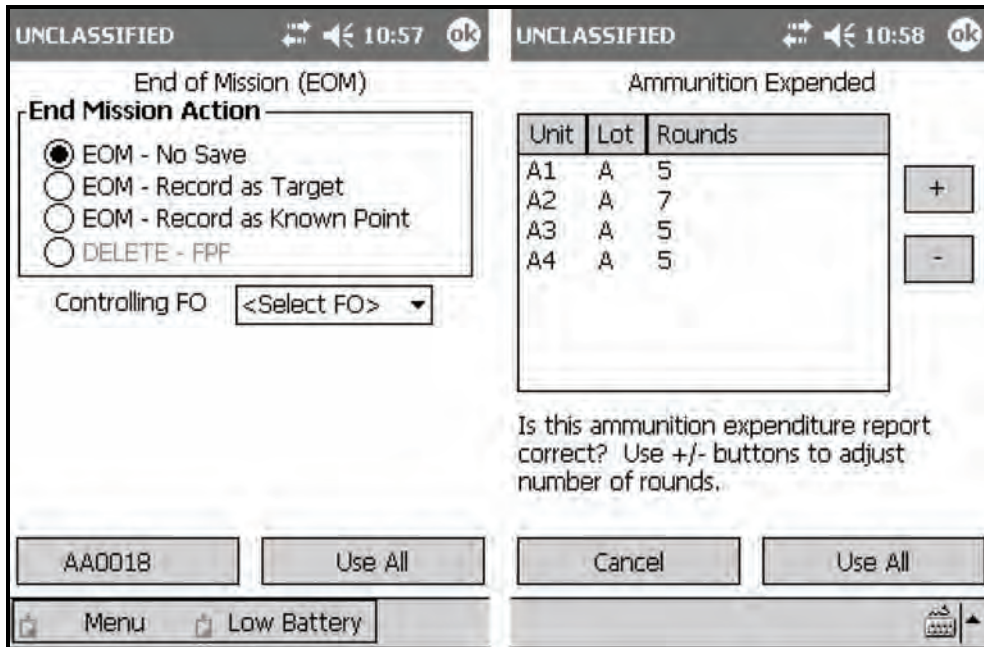

Figure 18-98. Search and Traverse: End of Mission and Ammunition Expended screens.
- (25) Record this data on DA Form 2399-R.
- (26) Select Use All.
- (27) The Solution/Gun Orders screen displays.
- (28) End the mission, and record the ammunition expenditure in the same manner as a standard manual mission (paragraph 18-2, Basic Manual Missions) (Figure 18-98).